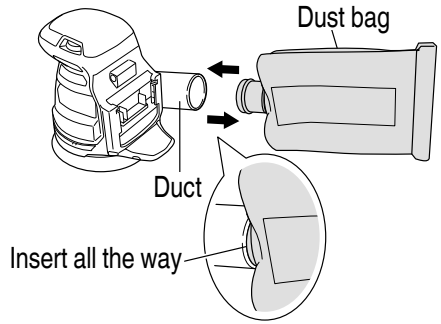

Fig. 9
4. Attaching and Removing the dust bag (Fig. 9)